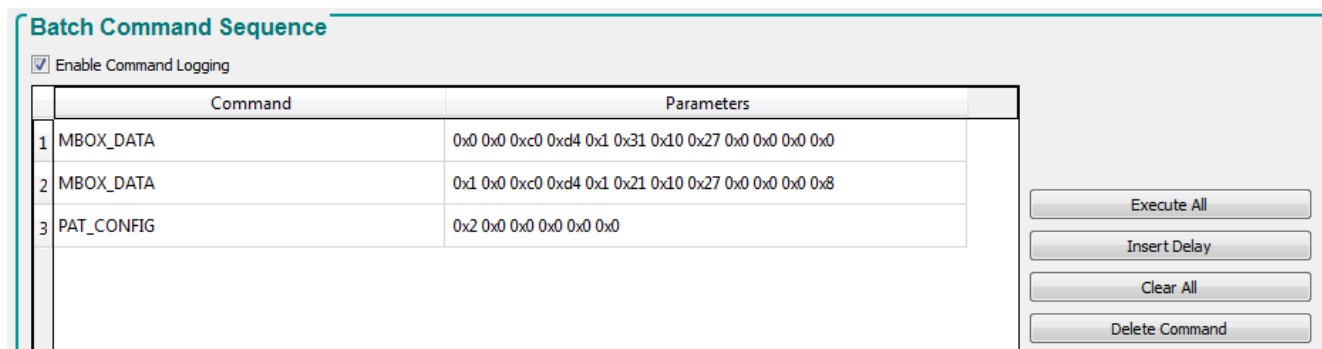
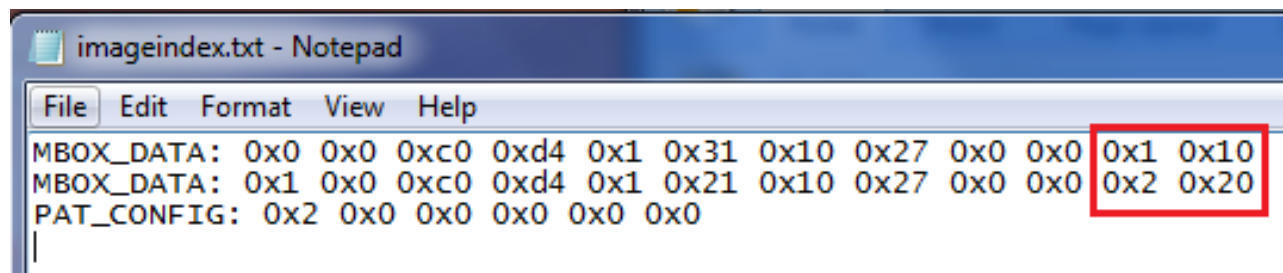

Figure 3-24. Pattern LUT Definition and Configuration
Figure 3-25. Updating the Index and Bit Position
10. Figure 3-24 shows the *Pattern LUT Definition* and *Configuration* of the pattern sequence.
16. Use Notepad or a similar editor to open and edit the batch file saved in step 11. The file is typically stored in the folder named *C:\Texas Instruments-DLP\DLPC900REF-SW-5.0.0\DLPC900REF-GUI\Images and Batch files*, then *LCR[DMD]_Images* folder depending on which DLPC900 DMD EVM is being used. Change the image index and bit position as seen in Figure 3-25. See the DLPC900 Programmer's Guide (DLPU018) for details of the *Pattern LUT Definition* and *Configuration* commands.
17. Figure 3-25 shows the image index and the bit position of the images for the two patterns, where the values have been changed compared to the values in Figure 3-24. Click the *Save* to save the new batch file.